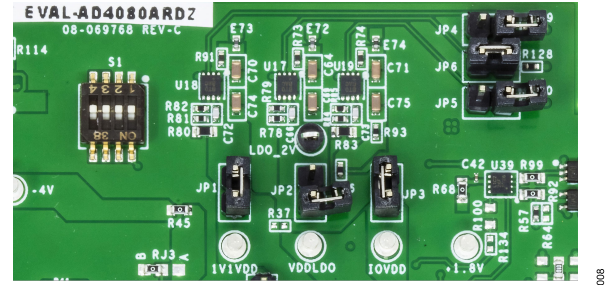

Figure 10. EVAL-AD4080ARDZ Jumpers JP1 to JP6 Setup
2. Connect the EVAL-AD4080ARDZ board to the SDP-K1 board as shown in Figure 10.
5. Ensure that the EVAL-AD4080ARDZ configuration jumpers (JP1 to JP6) are set as shown in Figure 10, as follows: JP1, JP3, JP6: on; JP2, JP4, JP5: off.